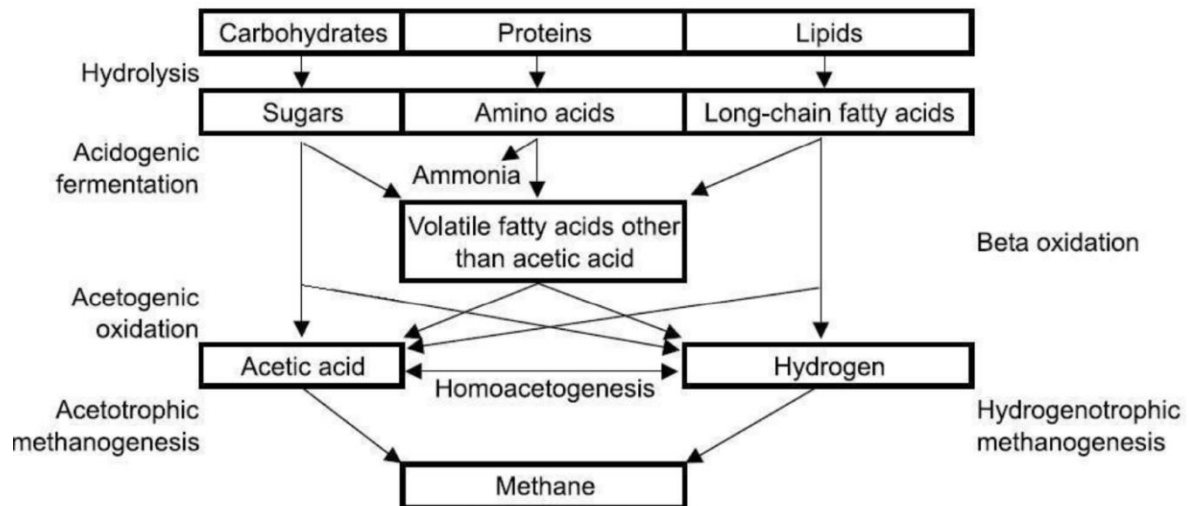

Figure-3: Anaerobic pathways in anaerobic degradation.
- ✓ the various stages have been detailed below and shown in **Figure-3**